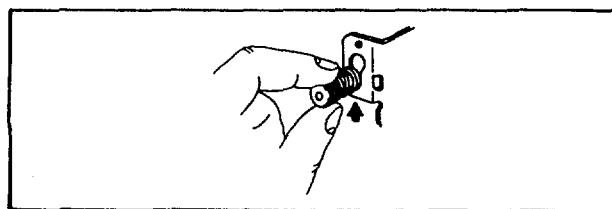

Fig. 25
- a. 1800 R.P.M., 60 cycle or 1500 R.P.M., 50 cycle generators -- Push speed adjusting nut in and up to release spring tension, Fig. 25. Start engine and pull out on speed adjusting nut to the maximum length of travel. Set engine speed to 2800 R.P.M. by bending governor tang, Fig. 21. With engine still running, return speed adjusting nut to slot and turn nut to obtain 1875 R.P.M., 60 cycle, or 1600 R.P.M., 50 cycle, no load.
- b. 3600 R.P.M., 60 cycle or 3000 R.P.M., 50 cycle generators -- Push speed adjusting nut in and up to release spring tension, Fig. 25. Start engine and pull out on speed adjusting nut. Set engine speed to 4600 R.P.M. by bending governor tang, Fig. 21. With engine still running, return speed adjusting nut to slot and turn nut to obtain 3700 R.P.M., 60 cycle, or 3100 R.P.M., 50 cycle, no load.
- a. 1800 R.P.M., 60 cycle or 1500 R.P.M., 50 cycle generators -- Push speed adjusting nut in and up to release spring tension, Fig. 25. Start engine and pull out on speed adjusting nut. Set engine speed to 2600 R.P.M. by bending governor tang, Fig. 21. With engine still running, return speed adjusting nut to slot and turn nut to obtain 1875 R.P.M., 60 cycle or 1600 R.P.M., 50 cycle, no load.
- b. 3600 R.P.M., 60 cycle or 3000 R.P.M., 50 cycle generators -- Push speed adjusting nut in and up to release spring tension, Fig. 25. Start engine and pull out on speed adjusting nut. Set engine speed to 4200 R.P.M. by bending governor tang, Fig. 21. With engine still running, return speed adjusting nut to slot and turn nut to obtain 3700 R.P.M., 60 cycle or 3100 R.P.M., 50 cycle, no load.